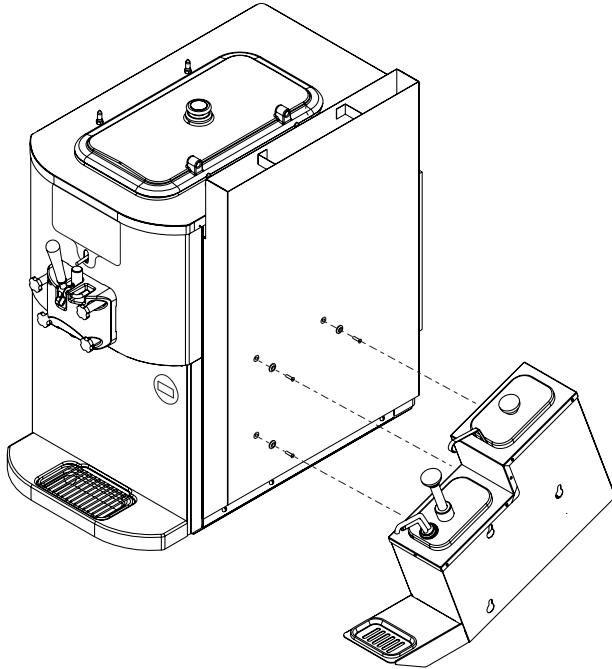

Figure 6
1. Three holes must be created in the side of the chute as shown in Figure 6. (See the Syrup Rail Instruction 048014-DRW included with the Syrup Rail Kit.)